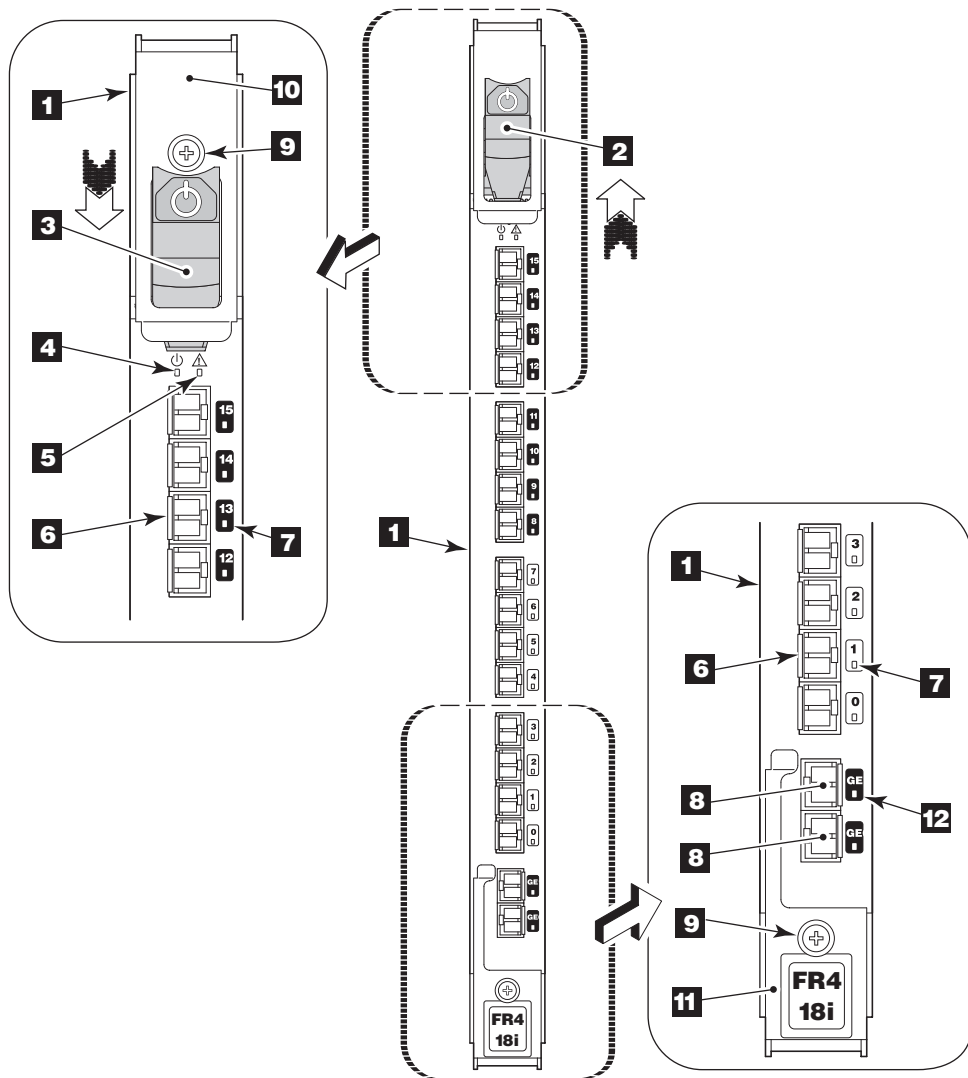

Figure 13. FR4-18i router blade
Power on the router blade by setting the slider switch at the top of the blade to the On position (see Figure 13 on page 38). If the router blade is operational, powering off the blade is disruptive to traffic across the blade.
5. Check the LED indicators on the power supply (see Figure 13.) The LED patterns may temporarily change during POST and other diagnostic tests; for information about how to interpret the LED patterns and verify that all components are healthy, refer to Table 11 on page 39.
- Figure 13 on page 38 illustrates the FR4-18i routing blade.